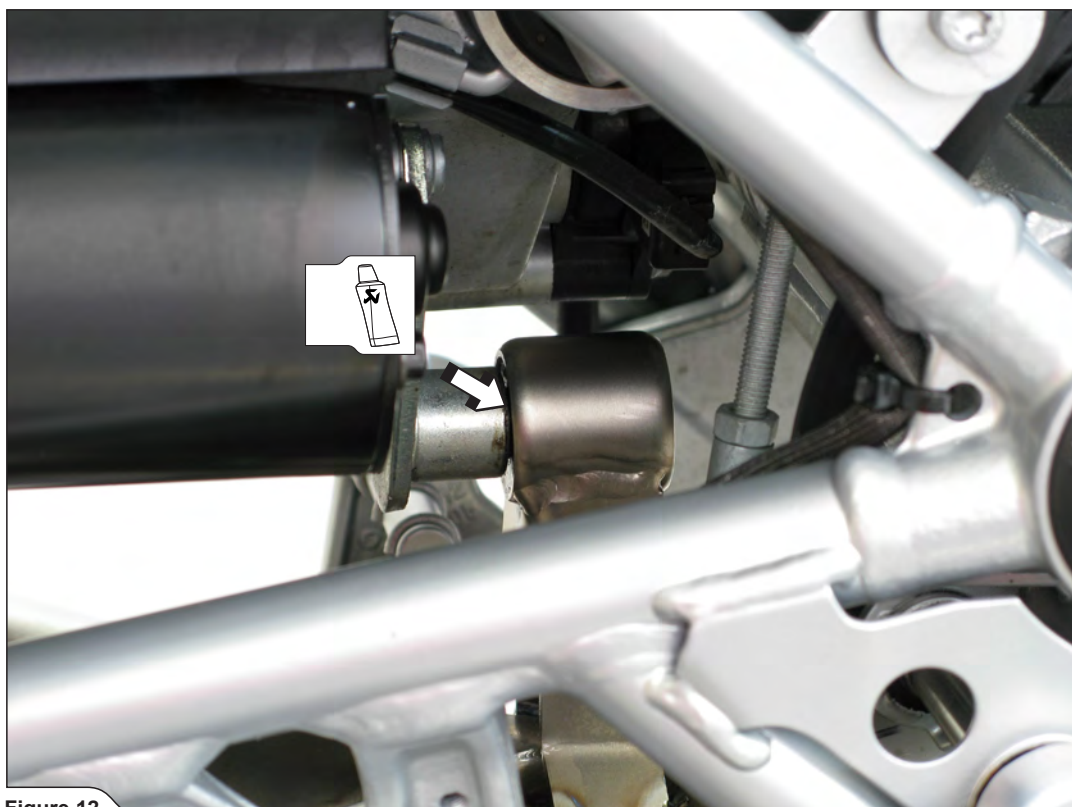

Figure 12
5. Correctly position and simultaneously slide the Akrapovič Y collector onto the header tubes and collector bracket onto the stock pin (**Figure 12, 13**).